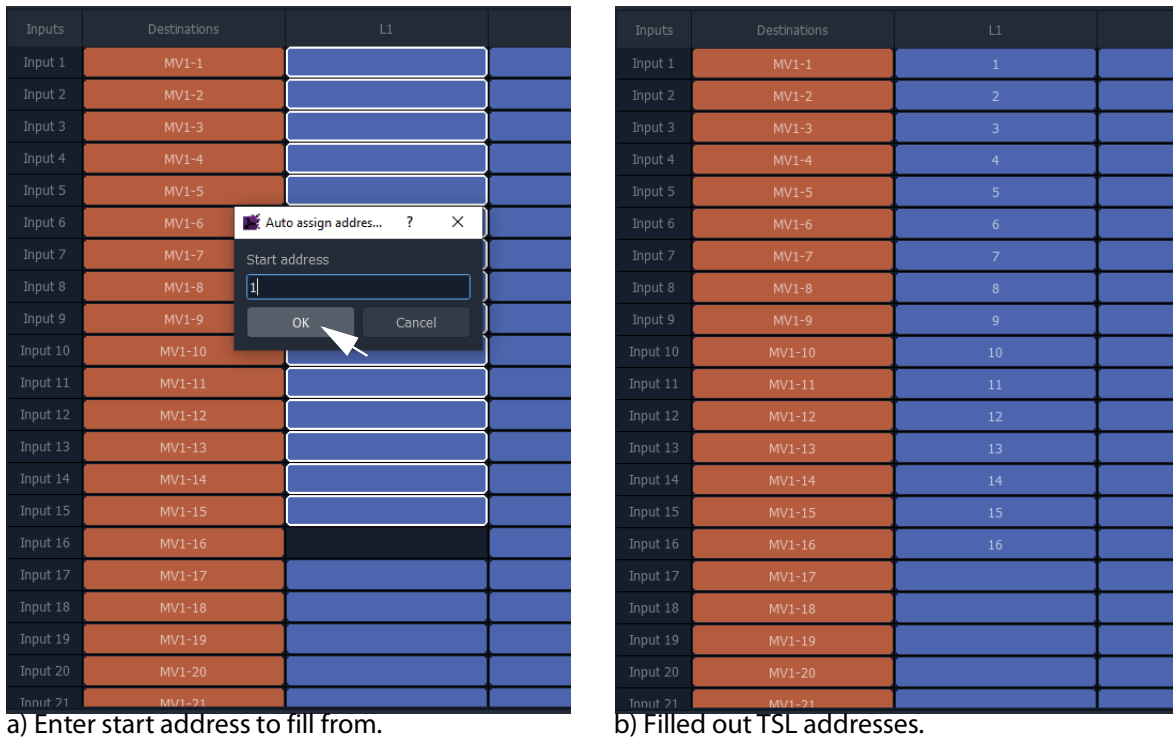

Fig. 15-4: TSL Address Range Filled Out
- 3 Click on the **Auto-Assign TSL Addresses** button and enter a start TSL address in the pop-up dialog. (See Figure 15-4.)